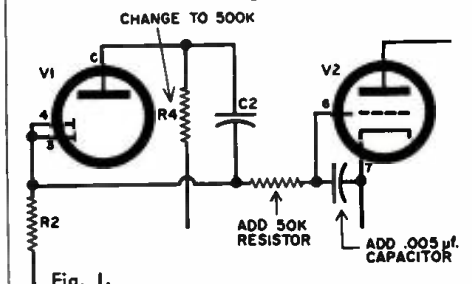

Fig. 1.
3. If it is necessary to add the filter and to modify V_1 , it can be accomplished as follows with reference to the schematic of the device (page 61, April, 1959 issue of *ELECTRONICS WORLD*) and the diagram in Fig. 1.